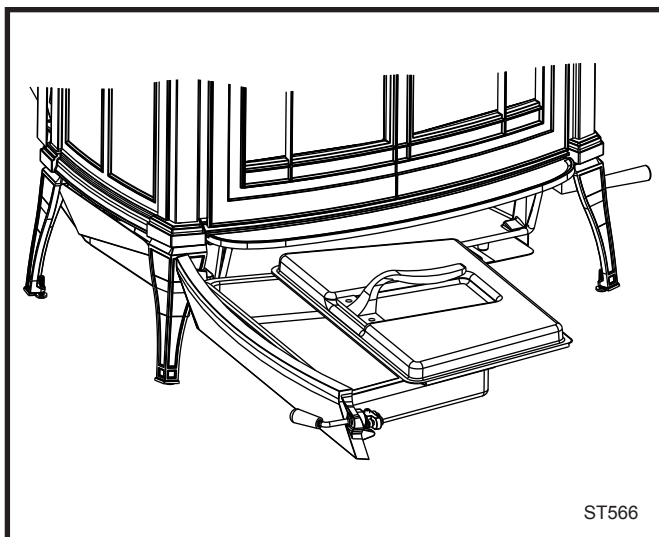

Fig. 42 Be sure the cover is securely attached before removing the ash pan.
- Slide the cover onto the pan, making sure it is securely closed. (Fig. 42)